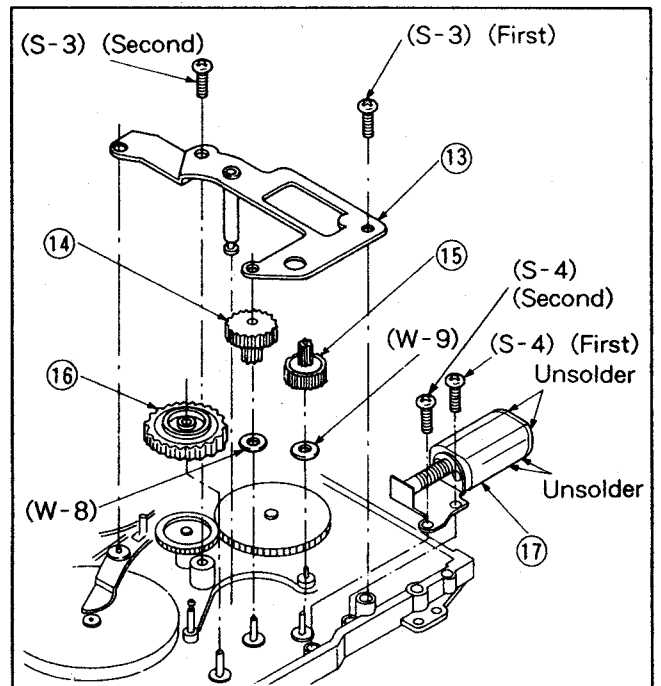

Fig. M8
13) Remove pulley plate unit. See Fig. M8.
- 27) Reinstall loading motor unit. Tighten the screws in the order shown in Fig. M8.